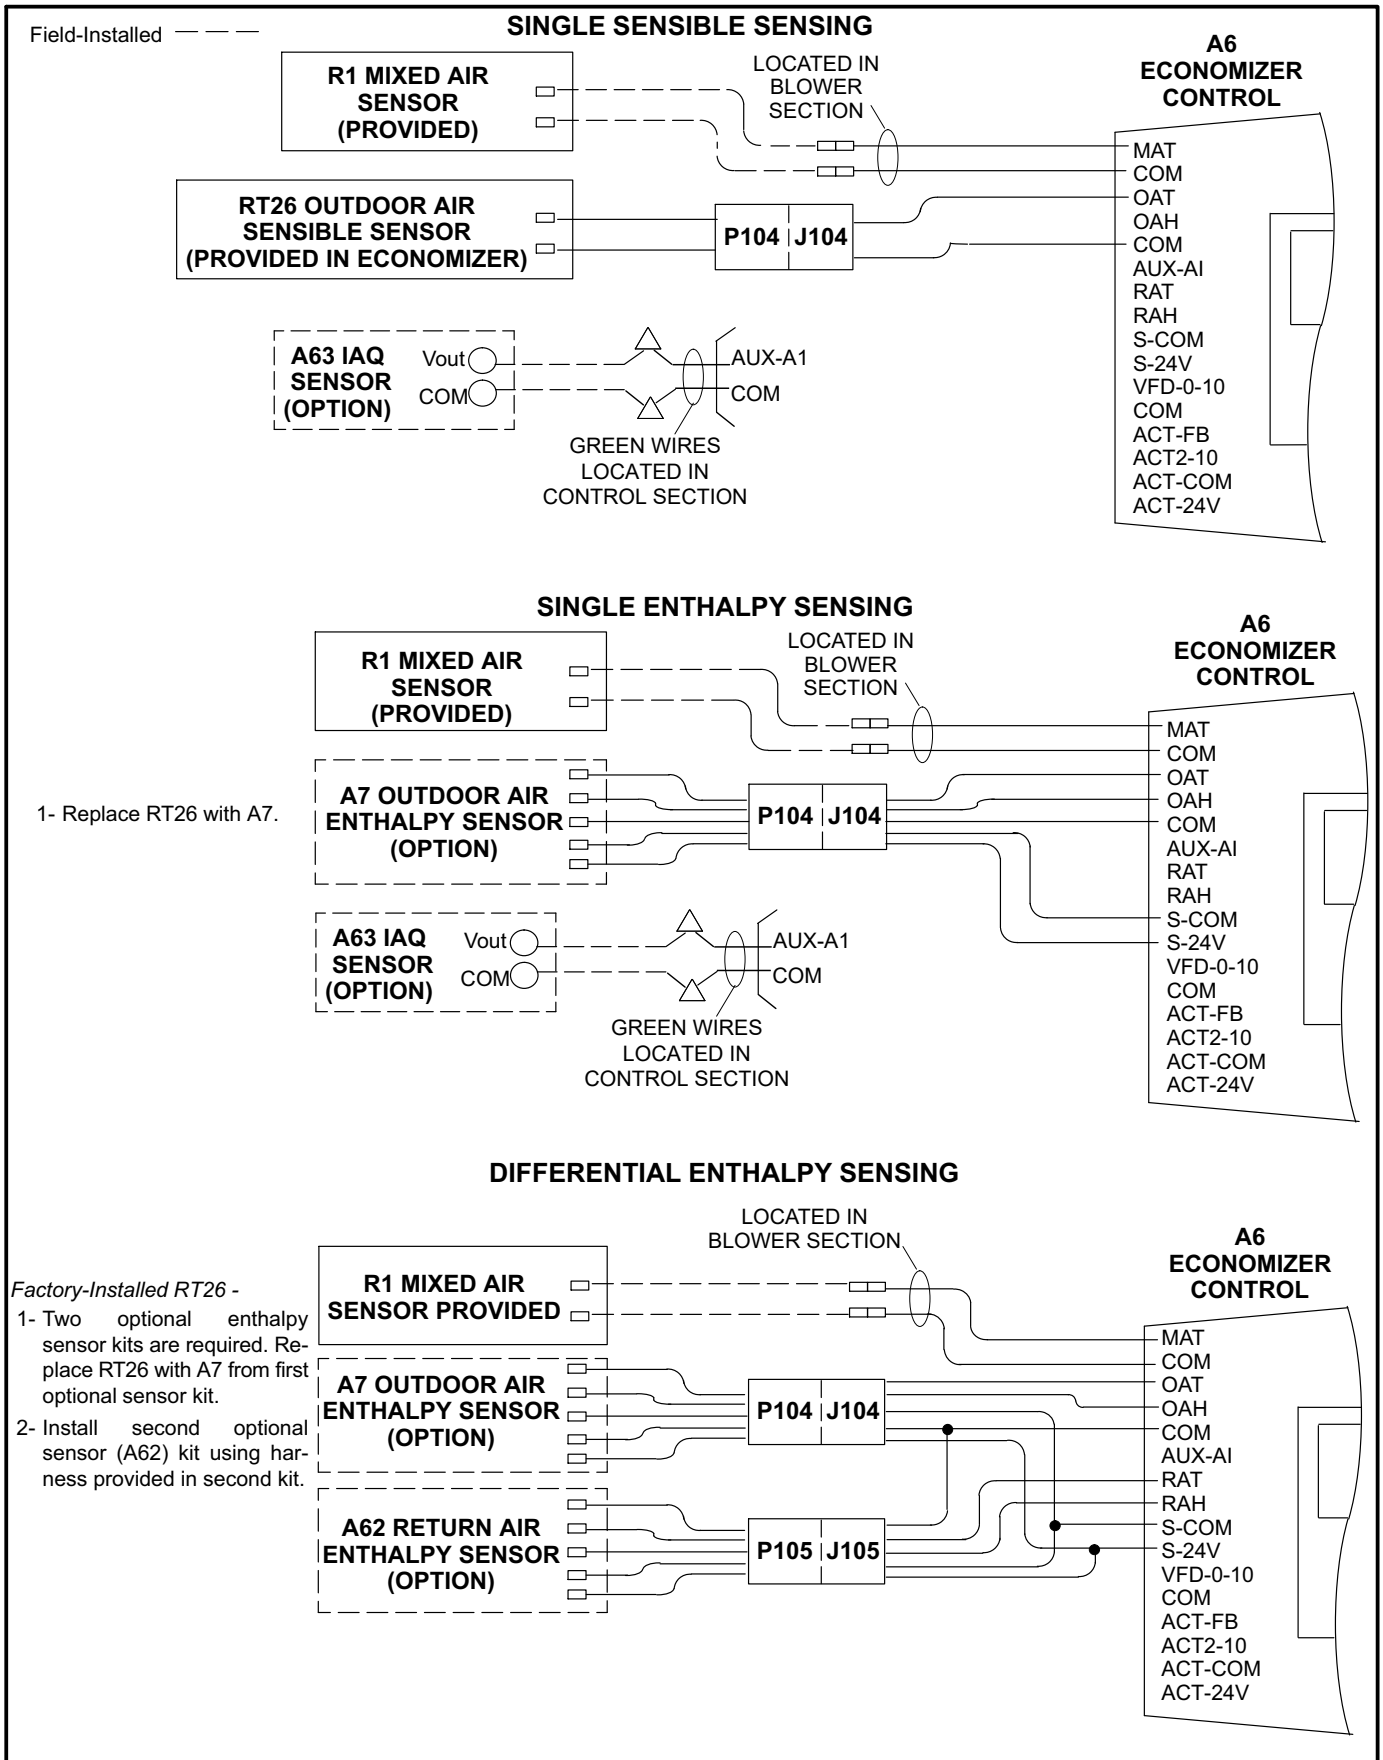

Figure 9
For proper operation, the IAQ sensor must provide a 2-10VDC, 100 ohm impedance signal. Connect sensors to the green IAQ leads provided on the economizer control module in the filter section as shown in Figure 9.
5. Connect any optional sensors as shown in Fig. 9.